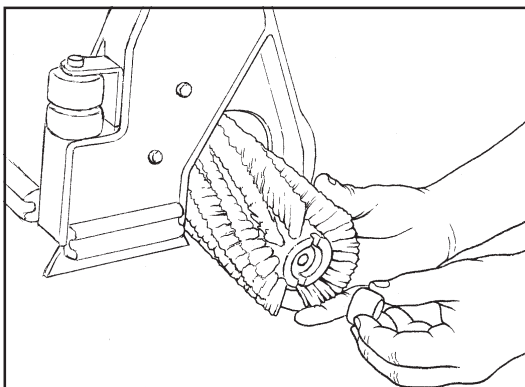

Figure 17
6. Remove brush spacer and brush by sliding off of brush shaft (figure 17).